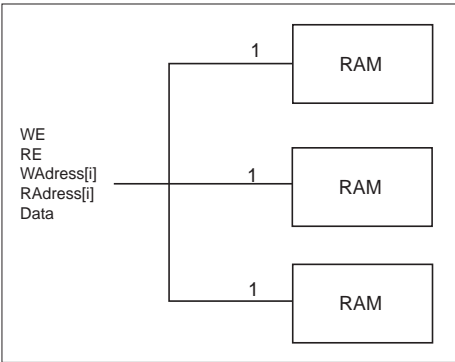
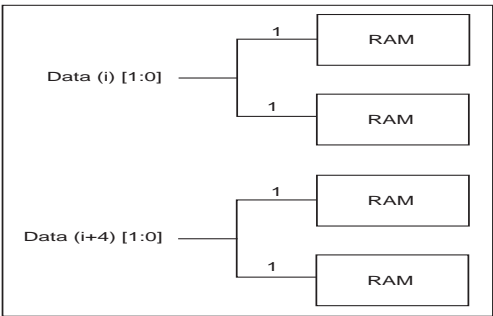

Figure 12-2. Manual Buffering (96x8 RAM Configuration)
Figure 12-3. Manual Buffering for the Data Bus (128x8 RAM Configuration)
Figure 12-2 shows how manual buffering is done. A fan-in of one (1) is enforced on all signals fanning out to more than one RAM cell. If these signals were broadcast to all RAM cells, very slow routing resources (long freeways) would be required to route the signals impacting the RAM performance.
Use Manual Buffering only if the expected performance is not realized using the automatic buffering scheme, or if you know ahead of time that you need to use this scheme to meet your timing goals. In this architecture, the idea is not to buffer the signals internally but rather give some kind of access to the RAM macro internal signals. Then, you must buffer the signals outside the macro and either use traditional buffers or duplicate the logic that drives these signals externally. If you choose manual buffering, the *WE*, *RE*, *WAddress(i)*, *RAddress(i)* and *Data[i]* signals become busses external to the macro. For all these signals, the bus width is equal to the number of RAM cells (used to build a given configuration) driven by each signal. Figure 12-2 illustrates the manual buffering architecture for a 96x8 RAM configuration, built of three 32x8 configured RAM cells. In this configuration, the *WE*, *RE*, *WAddress* and *RAddress* signals drive all RAM cells simultaneously. Figure 12-3 shows a 128x8 RAM configuration, built using four 64x4 configured RAM cells. In that